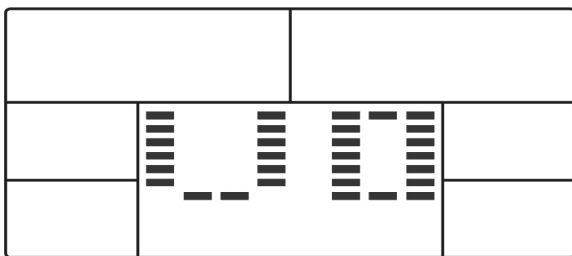

Figure 3
2. With the +/- buttons, the user can select the programs User 0 to 4 and confirm with MODE (see fig. 3 to 4). Then set the user data SEX, AGE, HEIGHT and WEIGHT. Press +/- to select the corresponding values (see fig. 5 to 8). Confirm the settings with MODE.